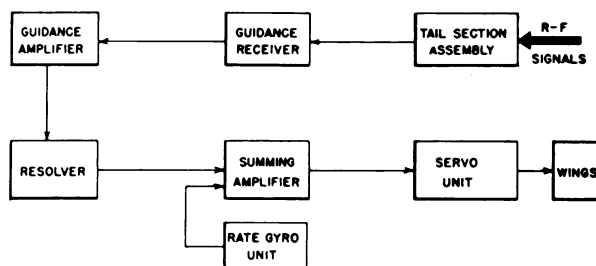
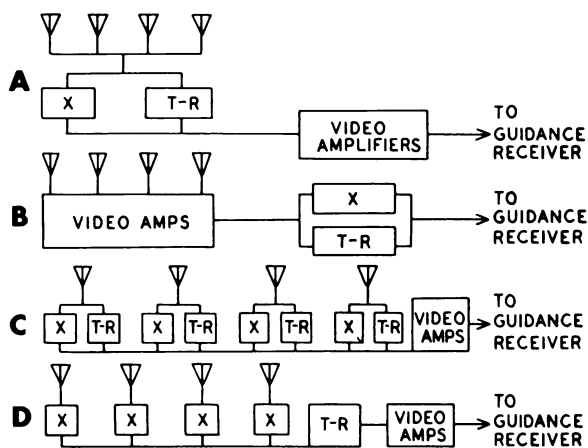

Figure 3G.—Beam-rider guidance system.
Figure 3H.
35. In which of the components shown in figure 3G is the roll command voltage developed?
36. Which of the simplified block diagrams shown in figure 3H most accurately represents the kind of tail assembly that would be found in a beam-rider system like the one shown in figure 3G? (In each one, the letter X stands for a crystal detector.)
37. Which component of the system shown in figure 3G produces four error voltages, each with a d-c value determined by a corresponding guidance pulse?
38. What is the purpose of the delay lines in the guidance receiver shown in figure 3G?
39. What characteristic of the error signal produced by the guidance amplifier in figure 3G indicates the direction of the missile's error?
40. What characteristic of the error signal produced by the guidance amplifier in figure 3G indicates the size of the missile's error?
41. How does the component resolver in figure 3G act upon the input up-down and left-right error signals to change them into pitch and yaw error signals?